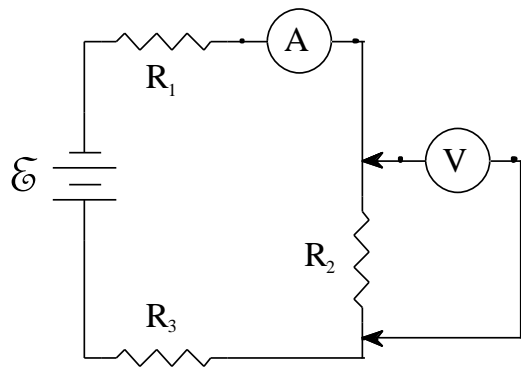

Figure 1
4. Connect the ammeter into the circuit. (see figure 1)